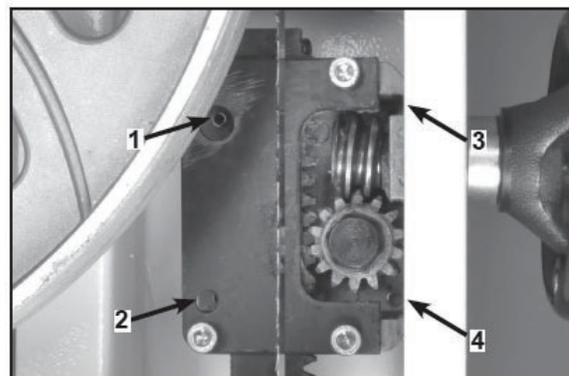

FIGURE 31
3. Open the top door and lower the blade guard all the way down to the table to access the Guide Bracket block. **Fig. 31.**
5. There are also four Set Screws (Fig. 31) set in the rear of the guide bracket near the corners. If the guard post needs to be angled slightly towards the front or back of the table, or even twisted on an angle, make the adjustment with these screws.